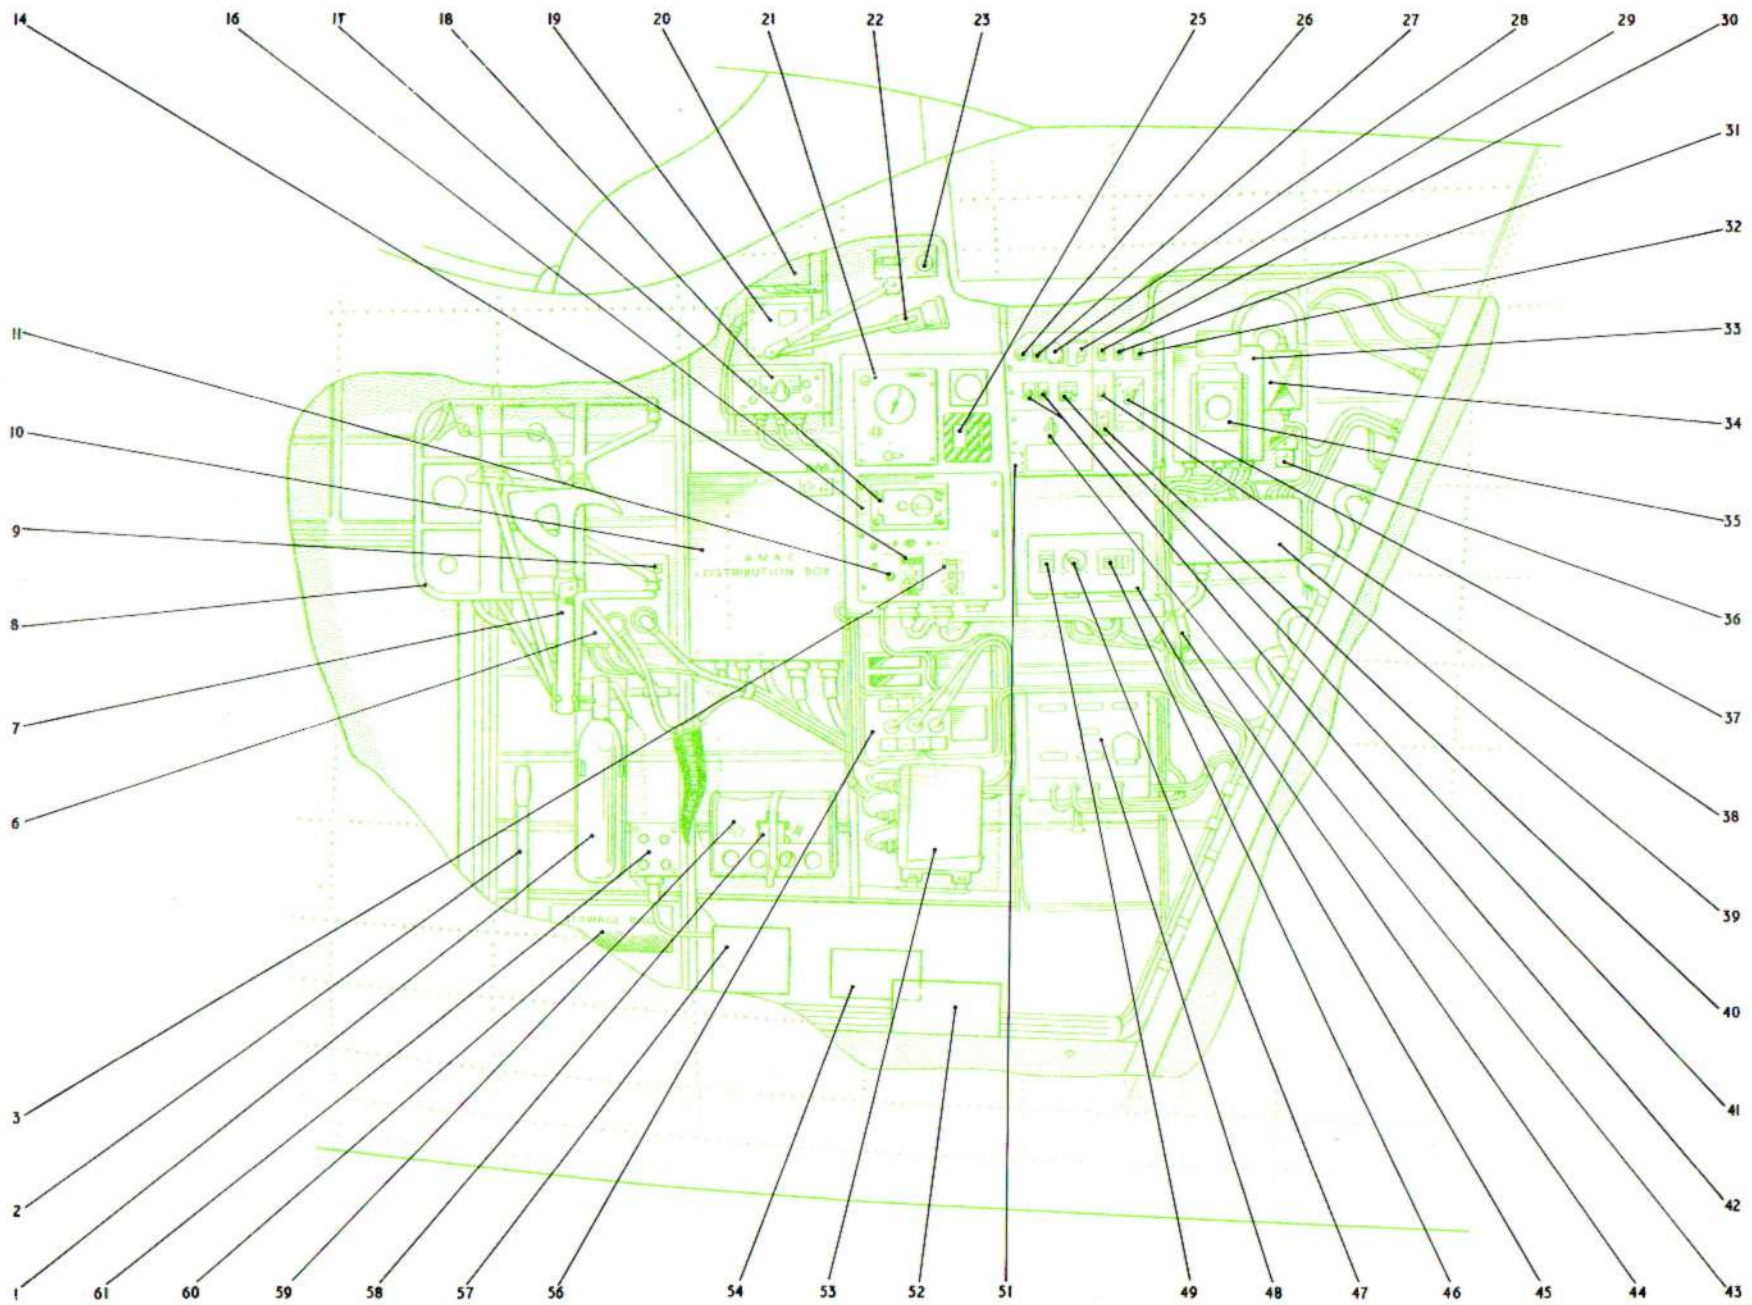

Fig.2. Air bomber's rear station (B(I) Mk.6 aircraft)
**Air bomber's stations (fig.2, 3, 5 and 6)**
5. The air bomber's seat is at the rear of the cabin on the starboard side. A panel on the starboard side of the cabin carries the ◀ S.W.S. equipment (*B (I) Mk.6 aircraft*), camera ▶ controls, bomb distributor control, oxygen regulator, etc. The air bomber's bombing position is in the transparent plastic nose of the aircraft; here the sighting head and bombsight computer with their associated
## KEY TO FIG.2 (AIR BOMBER'S REAR STATION - B (I) MK.6 AIRCRAFT)